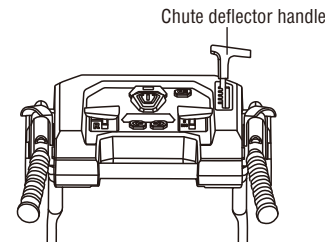

Fig. 10A
**NOTE:** The throwing distance of the snow blower is adjusted by adjusting the chute deflector up or down, the machine offers 5 different positions (-5°~55°). (Fig. 10A)